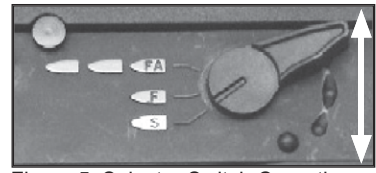

Figure 5: Selector Switch Operation (shown in Safe Mode)
Safe Mode (S): The Selector Switch is shown in Figure 5 in Safe mode. Safe mode locks the Trigger and disables the Electronics, making the marker inoperable.